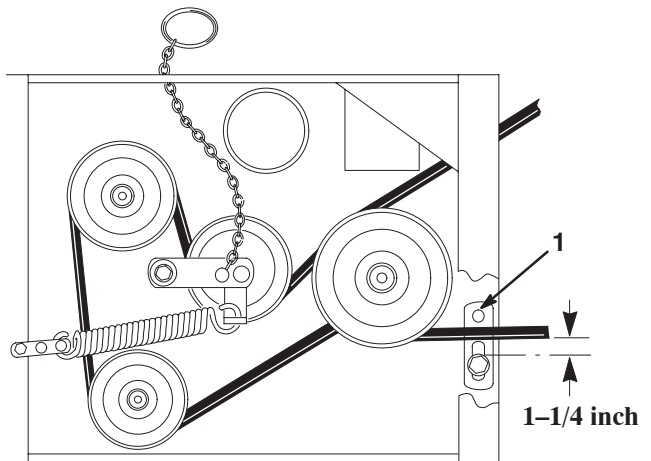

Figure 60
- 13. Check the belt guide under the engine frame for the proper adjustment (Fig. 60).
Note: The distance between the belt guide and the mower belt should be 1-1/4 inch (32 mm) when you engage the mower belt (Fig. 60). Adjust the mower belt as necessary. The disengaged belt should not drag or fall off the pulley when the guides are properly adjusted.